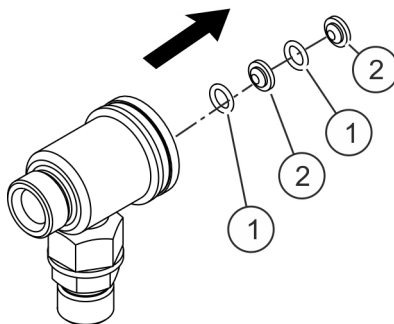

Fig. 21: Remove needle pack
5. ➔ Remove parts of the needle pack (Fig. 21/1, 2) comprised respectively of two seals (Fig. 21/1) and two cup collars (Fig. 21/2).